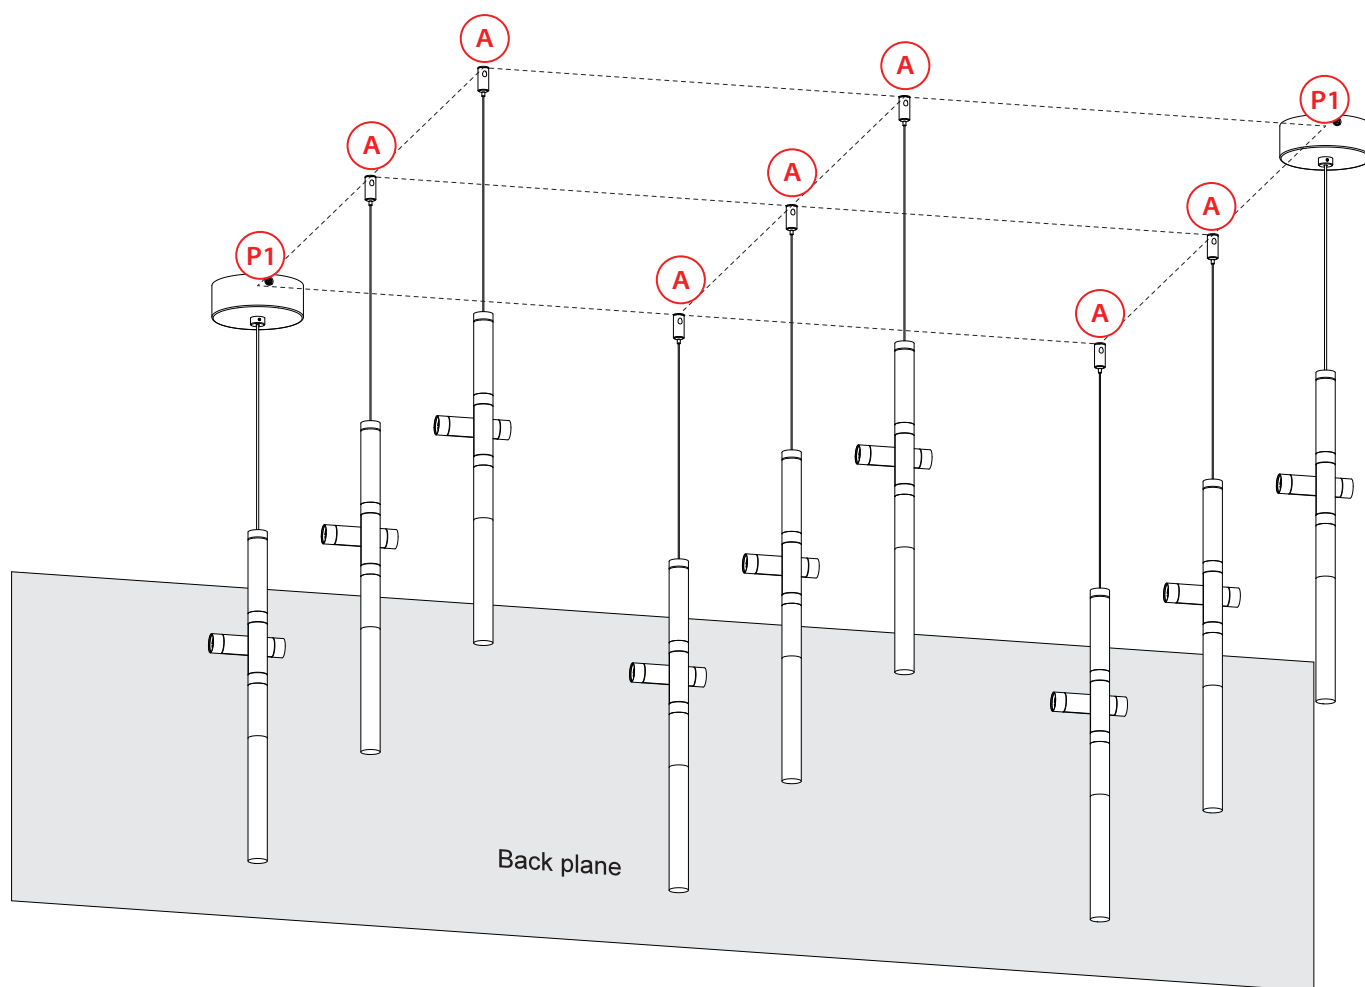

Fig. 4
Begin assembly by building subassemblies / collecting components shown below. Pay attention to the orientation of components as they are assembled with each other. Confirm their relative positions and direction by referencing Fig. 4 on page 10.
Install the Vertical sections to their respective locations shown in Fig. 4. Pay attention to the orientation of the subassemblies relative to the Back plane.
5. Twist together the outer braided conductor to form the negative wire of the fixture, then strip 5/8" off the end of the inner stranded conductor to form the positive wire of the fixture (Fig. 4).